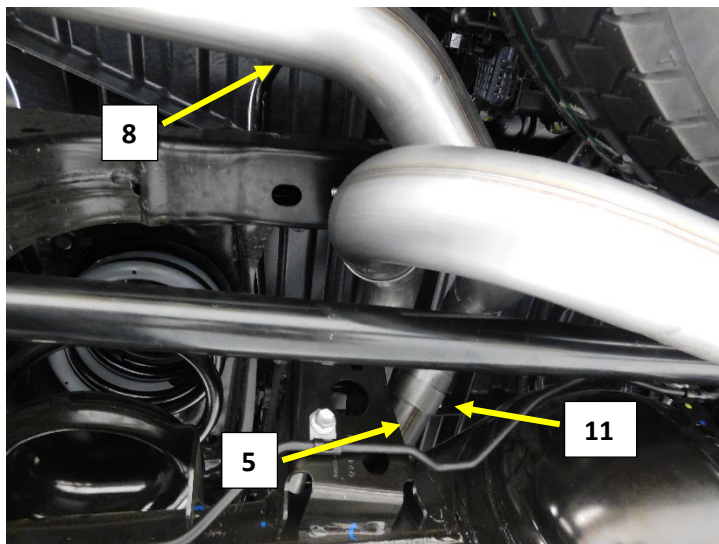

Figure.14
10. Install a 2.5" band clamp (**11**) on to the left tail pipe (**8**). Position the clamp with the bolt at the top of the pipe and the nut facing the right frame rail when the tube is installed on to the right muffler outlet pipe (**5**). **Fig.14**
11. Install the left tail pipe (**8**) expanded end over the axle and onto the right muffler outlet pipe (**5**) just over the differential. **Fig.14**